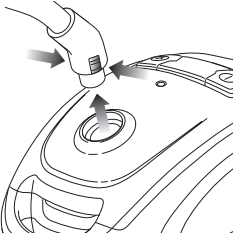

Fig. 9
- 2** Remove the flexible hose from the vacuum by squeezing the locking tabs on the neck of the hose and pulling it out. (Fig. 9)